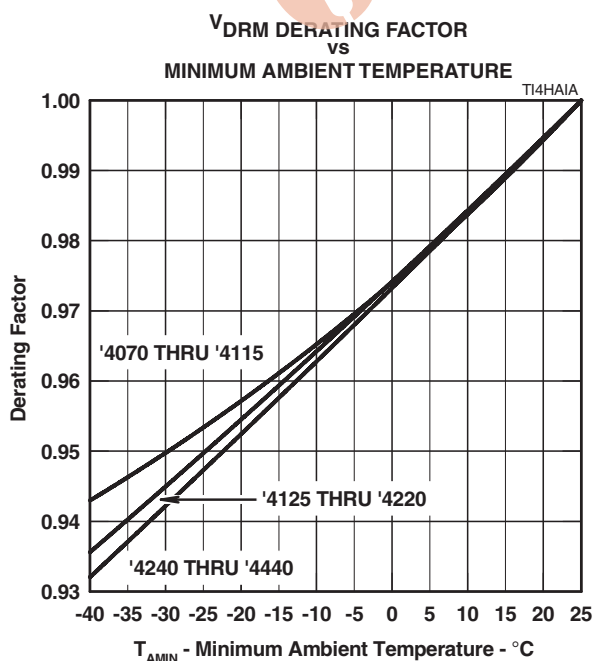
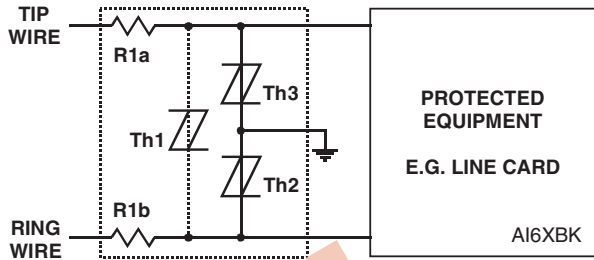
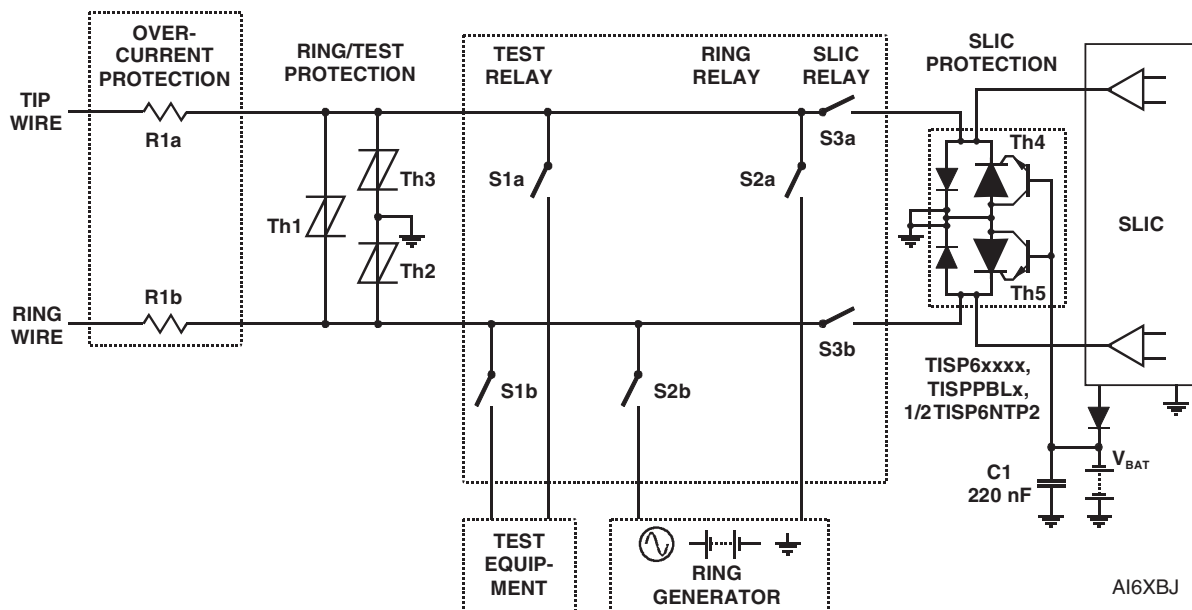

Figure 10.
Figure 15. PROTECTION MODULE
Figure 17. LINE CARD RING/TEST PROTECTION
- NOTES: 1. See Applications Information and Figure 10 for voltage values at lower temperatures.
The protector characteristic off-state capacitance values are given for d.c. bias voltage,  $V_D$ , values of 0, -1 V, -2 V and -50 V. Where possible, values are also given for -100 V. Values for other voltages may be calculated by multiplying the  $V_D = 0$  capacitance value by the factor given in Figure 6. Up to 10 MHz, the capacitance is essentially independent of frequency. Above 10 MHz, the effective capacitance is strongly dependent on connection inductance. In many applications, such as Figure 15 and Figure 17, the typical conductor bias voltages will be about -2 V and -50 V. Figure 7 shows the differential (line unbalance) capacitance caused by biasing one protector at -2 V and the other at -50 V.
Figure 10 allows the calculation of the protector  $V_{DRM}$  value at temperatures below 25 °C. The calculated value should not be less than the maximum normal system voltages. The TISP4260H3LM, with a  $V_{DRM}$  of 200 V, can be used for the protection of ring generators producing 100 V rms of ring on a battery voltage of -58 V (Th2 and Th3 in Figure 17). The peak ring voltage will be  $58 + 1.414 \cdot 100 = 199.4$  V. However, this is the open circuit voltage and the connection of the line and its equipment will reduce the peak voltage. In the extreme case of an unconnected line, clipping the peak voltage to 190 V should not activate the ring trip. This level of clipping would occur at the temperature when the  $V_{DRM}$  has reduced to  $190/200 = 0.95$  of its 25 °C value. Figure 10 shows that this condition will occur at an ambient temperature of -28 °C. In this example, the TISP4260M3LM will allow normal equipment operation provided that the minimum expected ambient temperature does not fall below -28 °C.